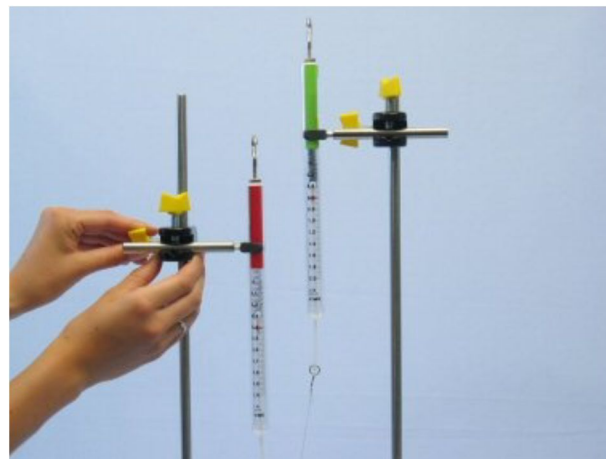

Fig. 14
- Move the 2 N spring balance in its holder progressively higher and read both spring balances in each position (Fig. 14).